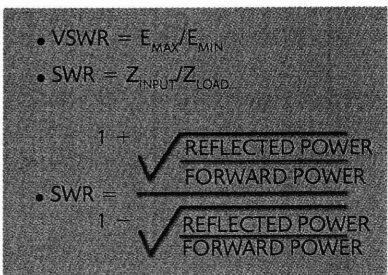

Figure 3. Standing wave ratio.
- applying the formula shown in Figure 3.